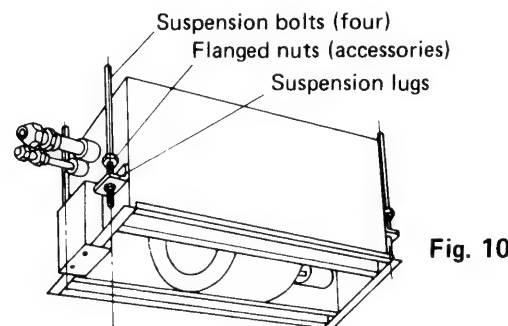

Fig. 10
- e) Screw flanged nuts (accessories) into the four suspension bolts, then lift the unit into position so that the suspension bolts pass through the holes in the suspension lugs on the unit. Fig. 10